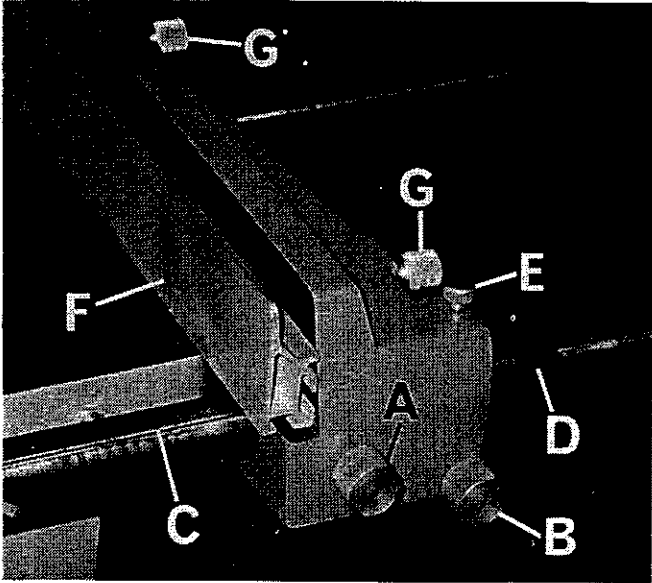

FIG. 14.
1. Loosen knurled handwheel "A", FIG.14, then disengage pinion from front racked fence bar by pulling knurled handwheel "B" out of fence front bracket.
The fence plate "F" in FIG.14, has two positions
Position shown in FIG.14, is for use with deep stock.
1. Loosen knurled handwheels "G" in FIG.14, then slide fence plate "F" from fence body.
When the fence plate position has been changed as previously described, the pointer "D" in FIG.14, must be reset accordingly.
1. Loosen handwheel "A", FIG.14, then move fence to a position which would allow a reasonable cut to be taken. Turn handwheel "A" to lock fence in position.